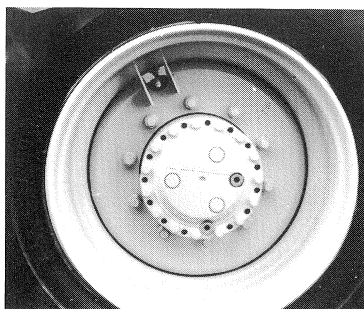

Fig. 61
7. Check the filling: Turn the tyre until the valve is in position shown in Fig. 61). In this position, liquid is to flow out when the valve is operated.